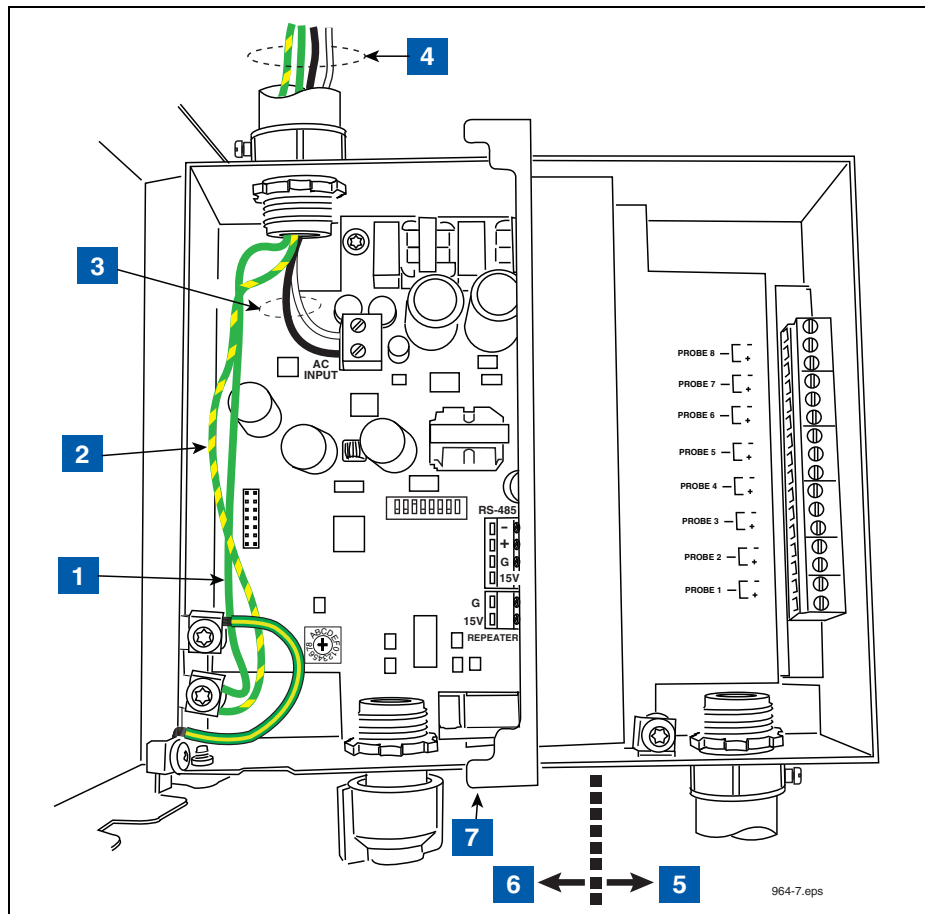
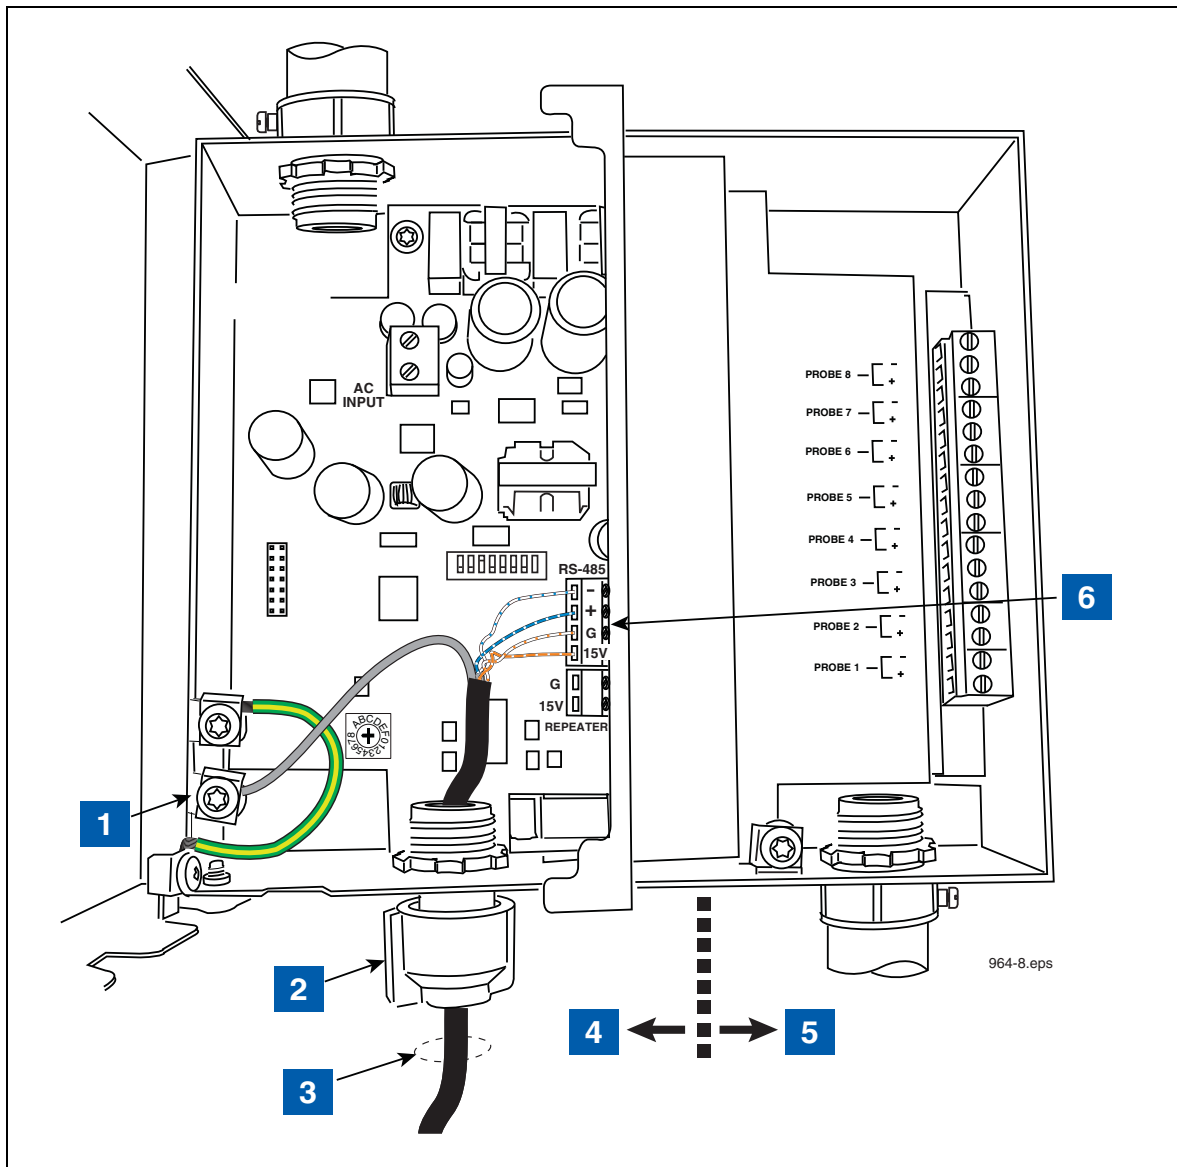
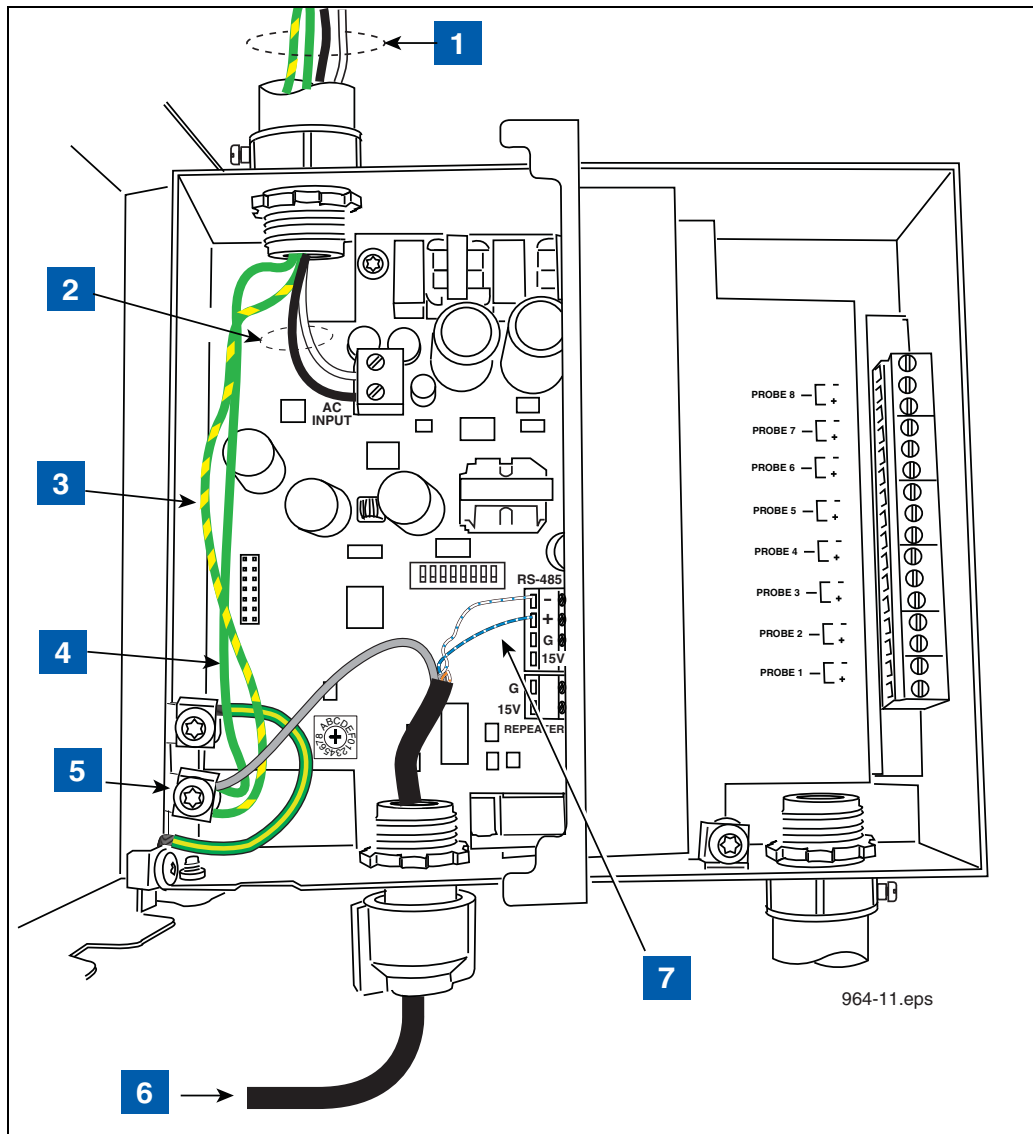
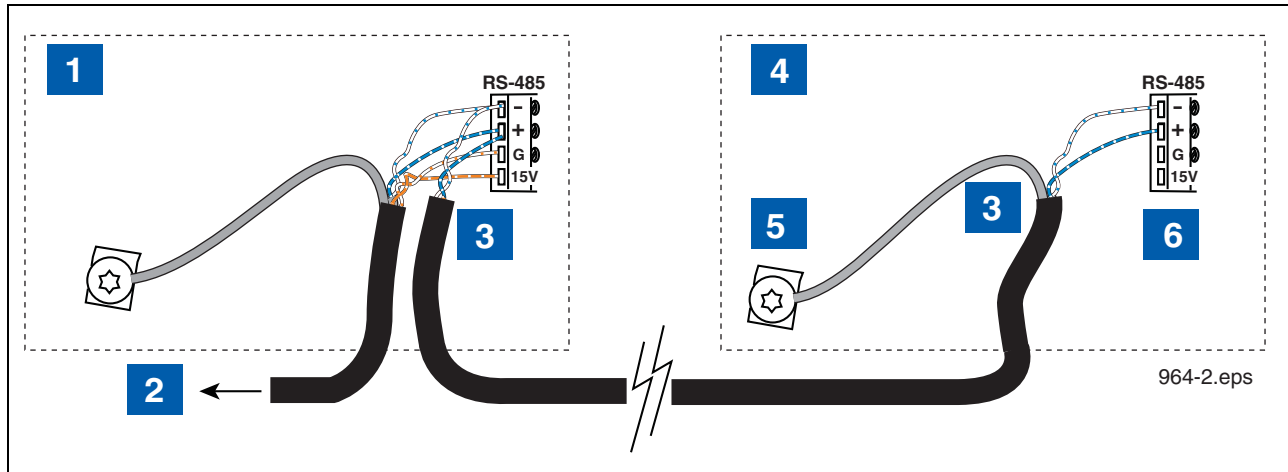

Figure 6. Wiring AC Power To The TLS RF
Figure 7. Wiring Receiver To The TLS RF
Figure 9. Power Connections To A Daisy Chained TLS RFs
Figure 10. RS-485 Cable Connections When Daisy Chaining Two TLS RFs
4. Using a #15 torx driver, open the covers of the TLS RF, Repeater and Receiver. Make a temporary ac power cord with a grounded plug on one end. Connect the ac power cord to the TLS RF's input power terminals and ground terminal (refer to Figure 6 and Figure 7). Connect a necessary length of RS-485 cable from the TLS RF's RS-485 terminals to the Receiver's RS-485 terminals (refer to Figure 23). Connect a necessary length of 2-conductor cable from the Receiver's Repeater terminals to the Repeater's Repeater terminals (refer to Figure 24).
To connect power wiring see Figure 6. To connect Receiver wiring see Figure 7. To daisy chain two TLS RFs, see Figure 9 and Figure 10. To connect TLS RF data output wiring to the TLS console see Figure 6.
LEGEND FOR NUMBERED BOXES IN Figure 6
LEGEND FOR NUMBERED BOXES IN Figure 7
LEGEND FOR NUMBERED BOXES IN Figure 9
| <p>1. POWER WIRING NOTES:</p> <ul style="list-style-type: none"> • Barrier ground must be #12 AWG or larger diameter. • Check to be sure that the electrical resistance - between the unit ground lug and a known good earth ground is less than 1 ohm. • Connect the power supply wires in the power panel to a separate dedicated circuit. • Electrical rating power input - 120 Vac or 240 Vac, 50/60 Hz, 2 A max. • See Figure 2 for actual locations of power conduit knockouts into the unit. Power wiring must enter only in one of these knockouts. <p>2. AC power input wires (#14 AWG) to AC input terminals.</p> | <p>3. Protective earthing conductor (green and yellow). Attach #12AWG barrier ground wire to ground lug. Ground must be the same as the supply and less than 1.0 ohms to ground.</p> <p>4. Attach chassis ground wire (#14 AWG) to ground lug.</p> <p>5. Connect the shield of the RS-485 cable to the ground lug.</p> <p>6. RS-485 cable from master TLS RF.</p> <p>7. See Figure 10 for connections.</p> |
LEGEND FOR NUMBERED BOXES IN Figure 10